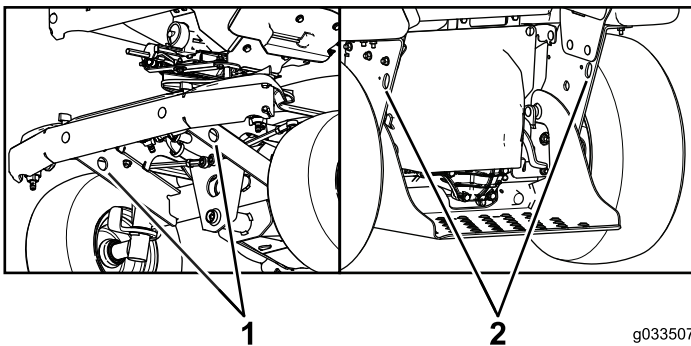

Figure 55
4. Use the tie-down points on the machine to securely bind the machine to the trailer or truck with straps, chains, cable, or ropes (Figure 55). Refer to local regulations for trailer and tie-down requirements.